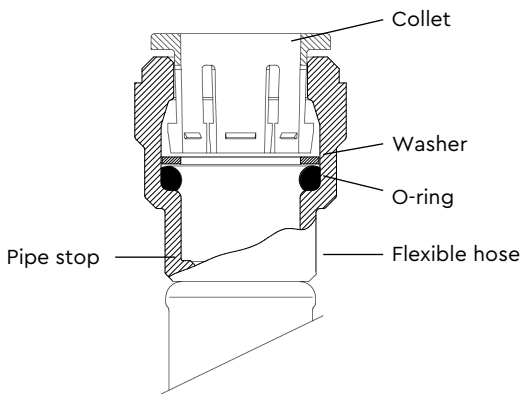

Figure 11
3. Check in the mouth of the fitting that the 'O'-ring, nylon washer and collet are in position as shown in Figure 11.